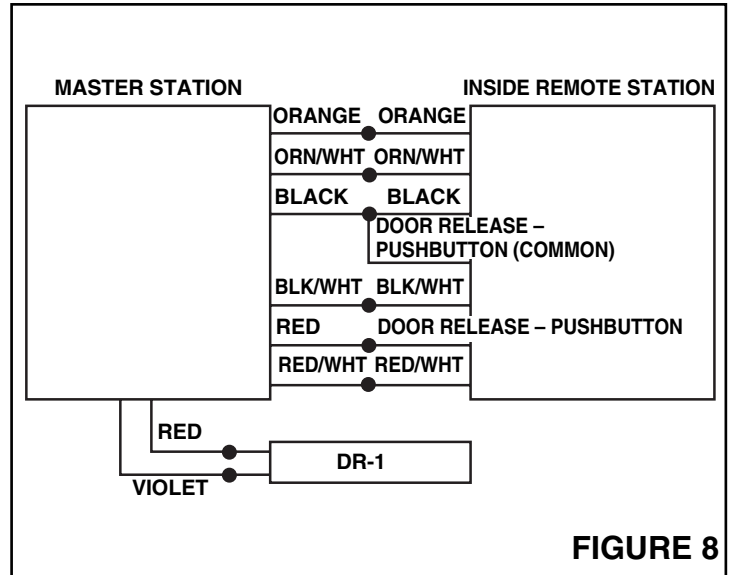

FIGURE 8
1. Connect wiring from Remote Speaker to Master Speaker as shown in Figure 8, (50 ft maximum).
3. Refer to Figure 8. Connect the Master Speaker's RED and VIOLET wires to the Door Release leads (maximum IW-2 door release cable length is 50 ft. Use S-143 (18 ga.) cable for lengths up to 100 ft).